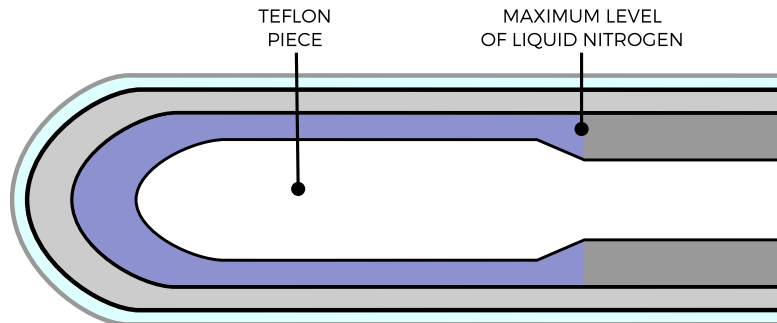

Figure 10: Maximal allowed level of the liquid nitrogen in the cryostat.
- Using the funnel fill **SLOWLY** the cryostat with liquid nitrogen up to the maximum allowed level. See Fig. 10 for reference.